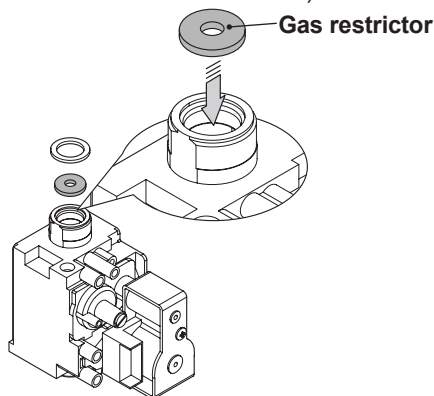

Fig. 9.2
- Carry out gas conversion by correctly replacing the gas restrictor (Fig. 9.2), referring to the "Technical Data" section (page 24 **Advance Plus 25S ERP** and page 27 **Advance Plus 30S ERP**).